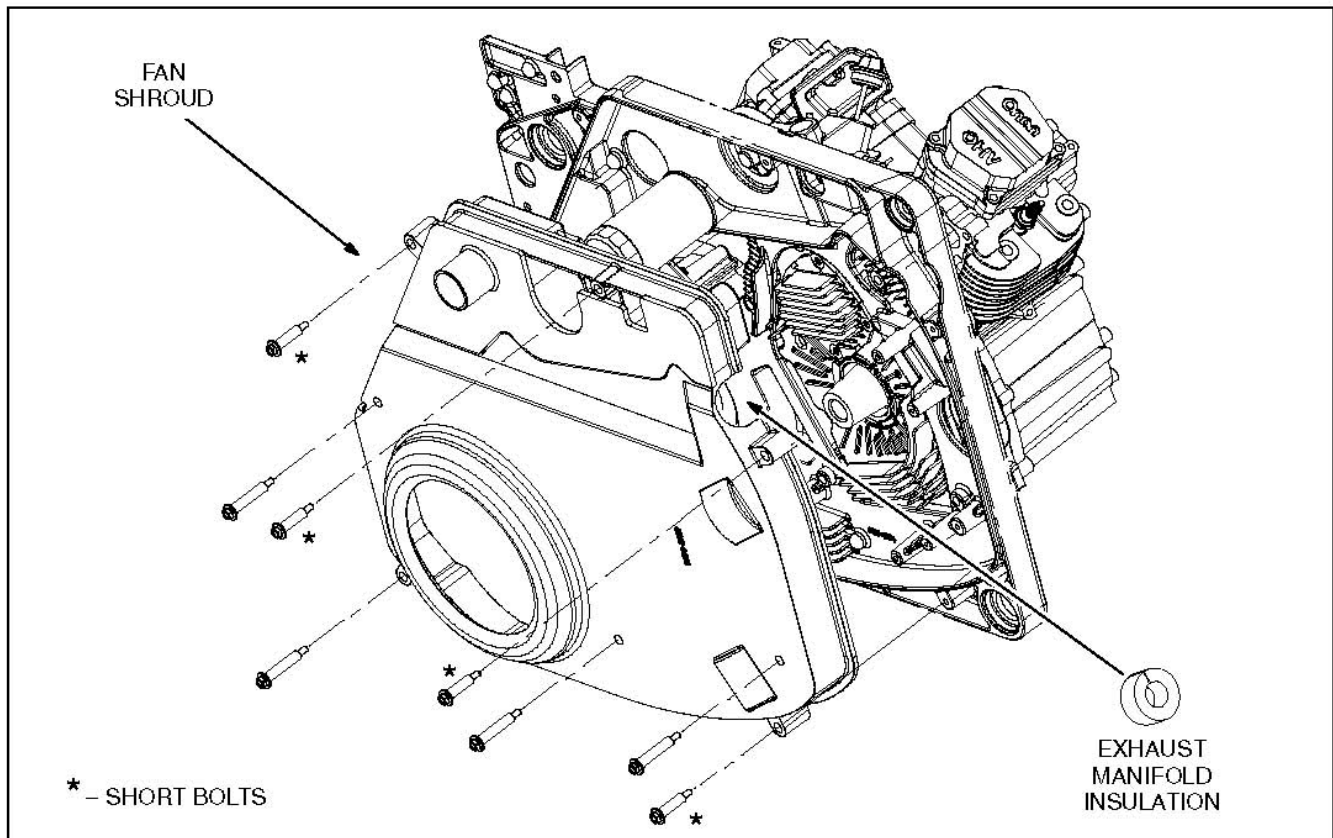

FIGURE 30. FAN SHROUD
The fan shroud (Figure 30) on the underside of the generator/engine assembly encloses the cooling fan, belt drive, flywheel, ignition coils (magnetos) and exhaust manifold.
2. Remove the eight fan shroud bolts and remove the fan shroud (Figure 30).
9. Install the fan shroud, making sure the exhaust manifold insulation (Figure 30) is in place. Note that the fan shroud bolts are of two lengths.
2. Remove the eight fan shroud bolts and remove the fan shroud. See Figure 30.